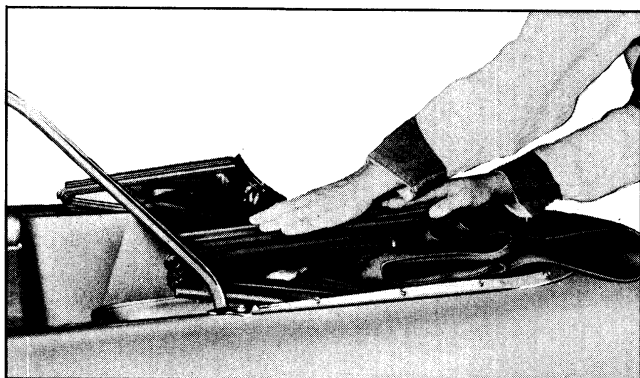

Fig. 22-10 Pressing Down on Side Rail
D. Press down on side rail front section until catch clip snaps onto side rail center section. Repeat operation on opposite side of car (Fig. 22-10).